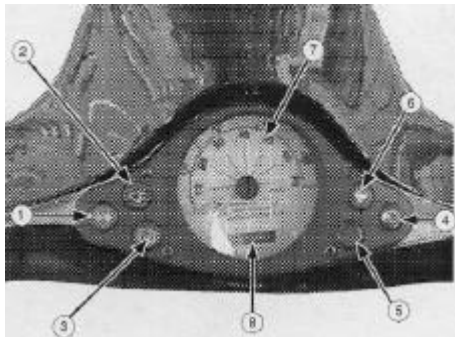
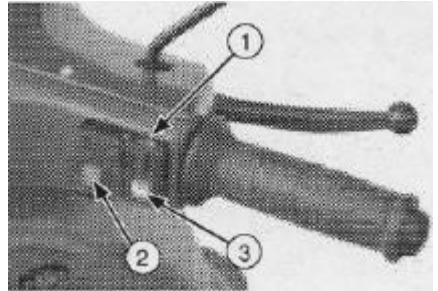

Fig. 4
Fig. 6
## DASHBOARD ( FIG.4 )
## CONTROLS ON THE RIGHT HANDLEBAR (FIG. 6)
3. Press the standard drive mode control (FIG. 6, pos. 2). The corresponding light (FIG. 4, pos. 5) stops blinking and remains steadily lit, indicating the engine is ready to be started.
The plug warning light on the dashboard (FIG. 4, pos. 2) comes on and an additional disabling function makes it impossible for the scooter to be started whilst the battery charger is working.
During the charging process the plug warning light on the dashboard (FIG. 4, pos. 2) is flashing, once 80% of the charging is reached, light remain on, to switch off once the charging is complete.